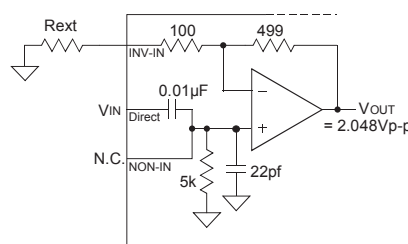
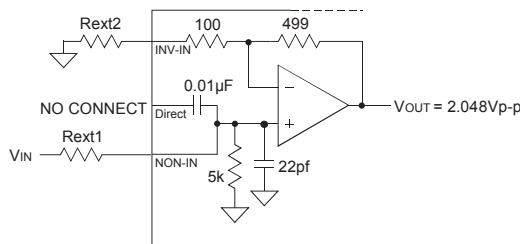
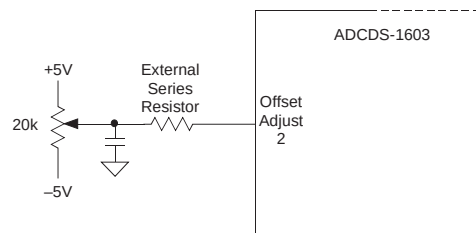

Figure 2b. Direct Mode
Figure 2d. Non-inverting Mode
Figure 3. Offset Adjustment Circuit
3. Offset adjustment resistor (Figure 3), Rext (Figure 2b, 2c, & 2f), and Rext₁ & Rext₂ (Figure 2d) should be placed as close to the ADCDS-1603 as possible.
When applying inputs that are less than 2.048Vp-p, a coarse gain adjustment (applying an external resistor to Inverting Input) must be performed to ensure that the full scale pixel data input signal (saturated signal) produces 2.048Vp-p signal at the input-amplifier's output (V_{OUT}) (See figure 2b & 2c).
The ADCDS-1603 achieves its specified accuracies without the need for external calibration. If required, the device's small initial offset error can be reduced to zero using the OFFSET ADJUST feature (See figure 3). For fine gain adjustment model, contact the factory.
Figure 2b. describes the configuration for applications using a pixel data input signal with an amplitude greater than 0.342Vp-p and less than 2.048Vp-p. Using a single external series resistor, the coarse gain of the ADCDS-1603 can be set. The coarse gain of the input amplifier can be determined from the following equation: V_{OUT} = 2.048Vp-p = V_{IN} * (1+(499/(100+Rext))) (all internal resistors having a 0.1% tolerance).
Figure 2d. describes the typical configuration for applications using a pixel data input signal whose amplitude is greater than 2.048Vp-p. Using a single external series resistor (R_{ext} 1) in conjunction with the internal 5K (1%) resistor to ground, an attenuation of the input signal can be achieved. The coarse gain of this circuit can be determined from the following equation:
Manual offset adjustment for the ADCDS-1603 can be accomplished using the adjustment circuit shown in Figure 3. A software controlled D/A converter can be substituted for the 20KΩ potentiometer. The offset adjustment feature allows the user to adjust the Offset/Dark Current level of the ADCDS-1603 until the output bits are 0000 0000 0000 0000 and the LSB flickers between 0 and 1. The ADCDS-1603's offset adjustment is dependent on the value of the external series resistor used in the offset adjust circuit (Figure 3) and the gain of the input-amplifier.